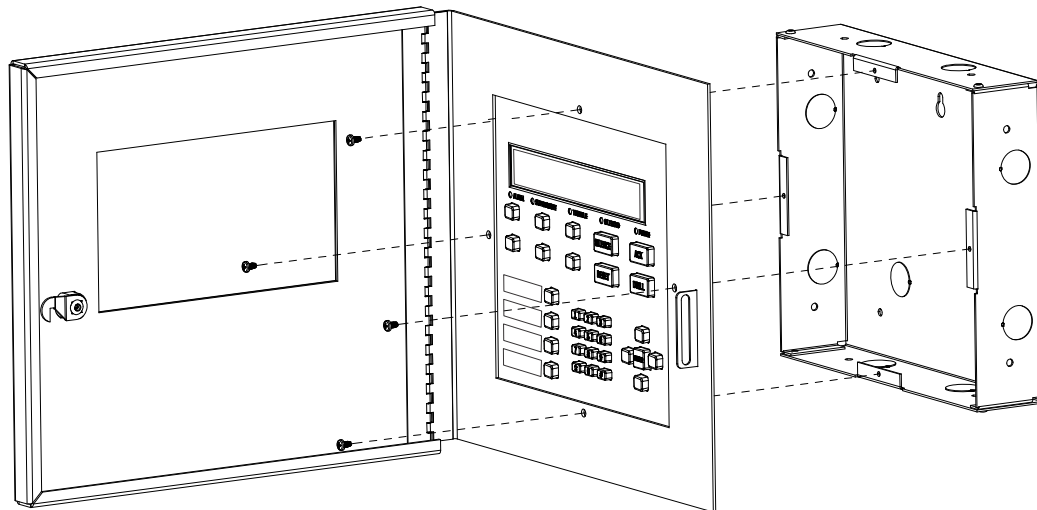

Figure 4.21 Attaching Annunciator / Door Assembly to Backbox
9. Attach the door assembly to the backbox using the screws provided. Refer to Figure 4.21.